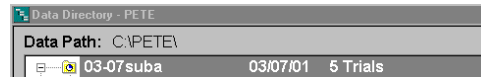

Figure 5: Active Session Folder
1. Make sure all fourteen cameras are selected with a check in each box. If all fifteen are selected it doesn't matter (Fig. 5).